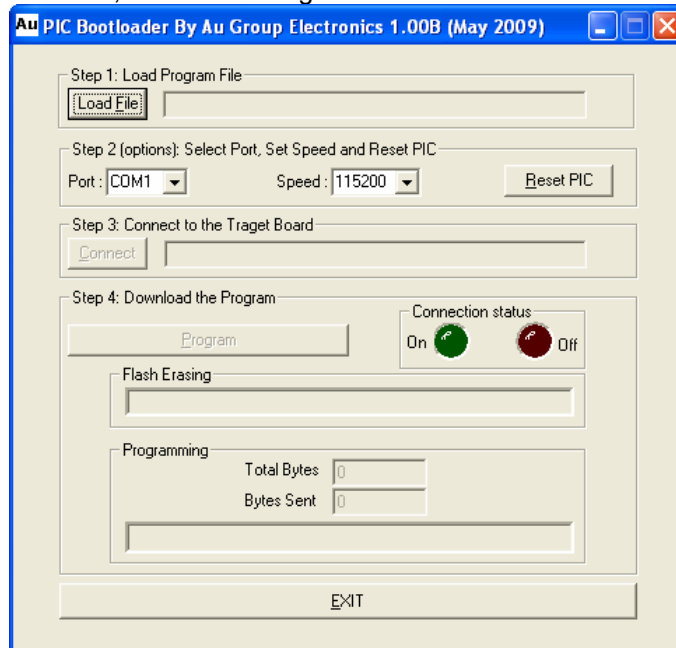

Figure 6-22
9. Au PIC Boot-loader is launched, as shown in Figure 6-22